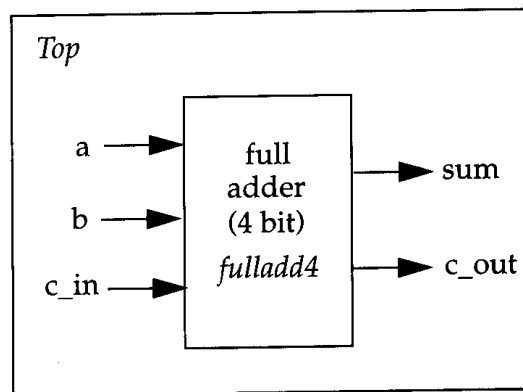

Fig.2.3: I/O Ports for Top and Full Adder
- Consider a 4-bit full adder that is instantiated inside a top-level module Top. The diagram for the input/output ports is shown in fig.2.3.
- Thus, for the example of the fulladd4 in fig.2.3, the port declarations will be
- Consider the module fulladd4 defined in fig.2.3. To connect signals in module Top by ordered list, the external signals A, B, C_IN, SUM and C_OUT appear exactly in the same order as the ports a, b, c_in, sum and c_out in module definition of fulladd4.